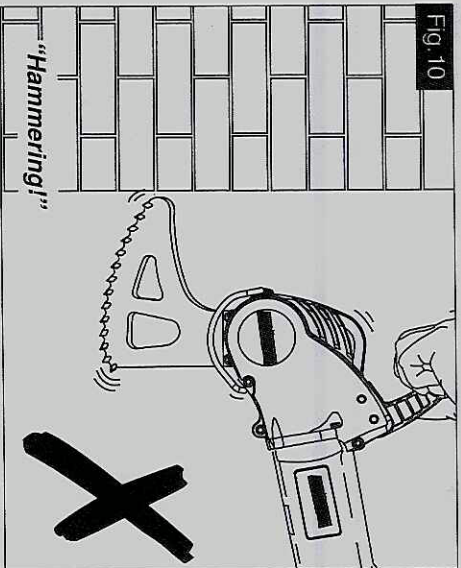

Fig. 10
**CAUTION:** Do Not allow the forward or rear end of the blades to hammer onto hard surfaces (shown in figs: 10, 11 & 13) as this will damage the blades and tool. If unintentional hammering occurs, stop the tool or withdraw it from the cut immediately.